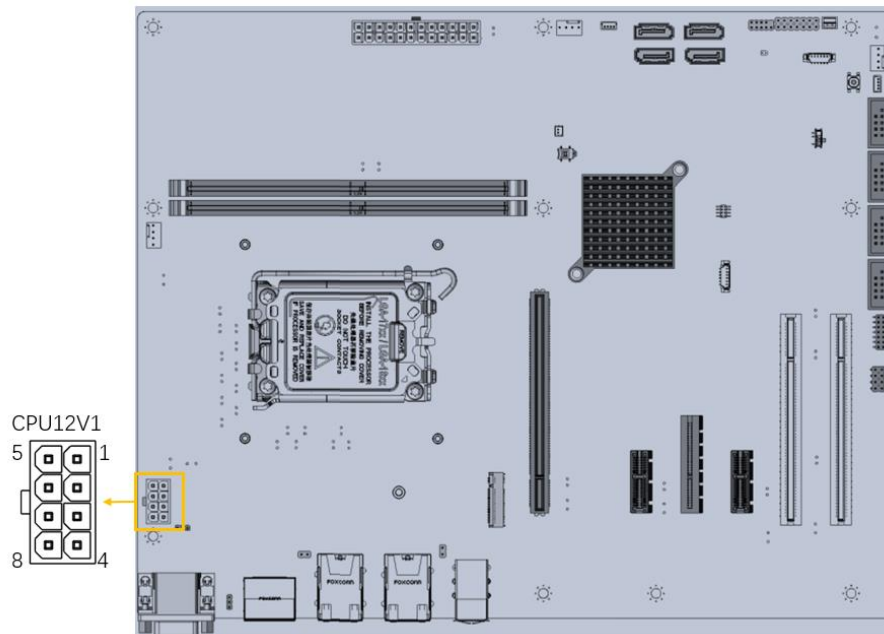

Figure 3-8: ATX CPU 12V Power Connector Location
- CN Location:** See Figure 3-8